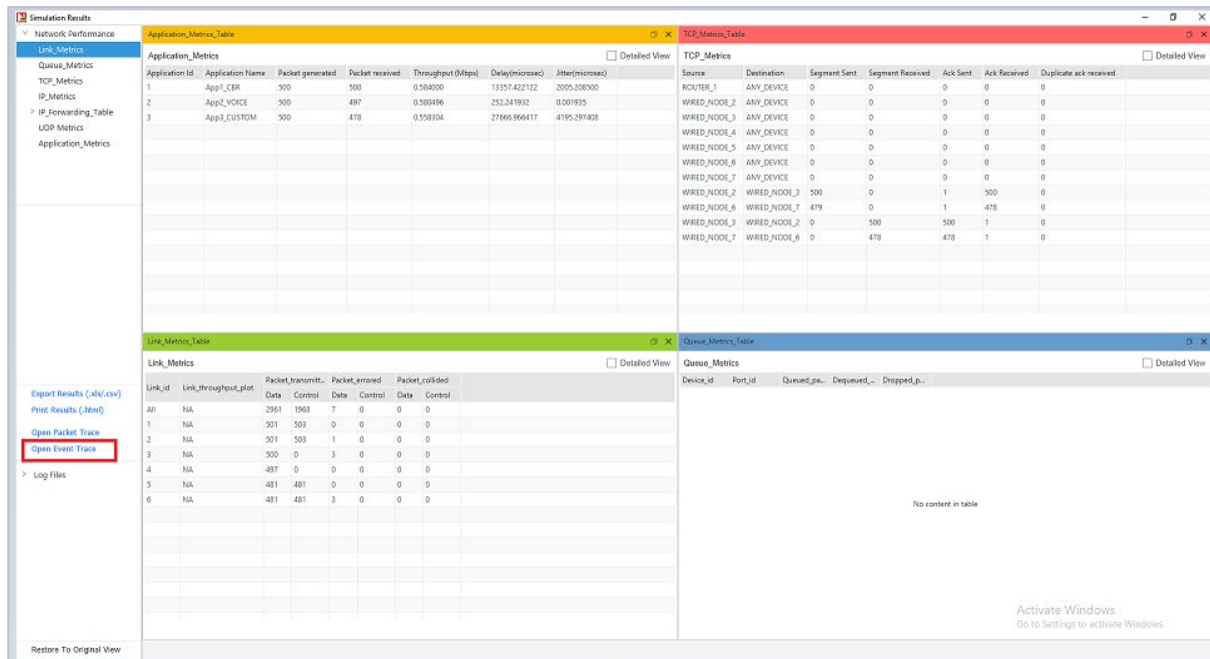

Figure 8-75: Select Event Trace option in results window
3. Open event trace from the simulation results windows as shown in the below Figure 8-75.